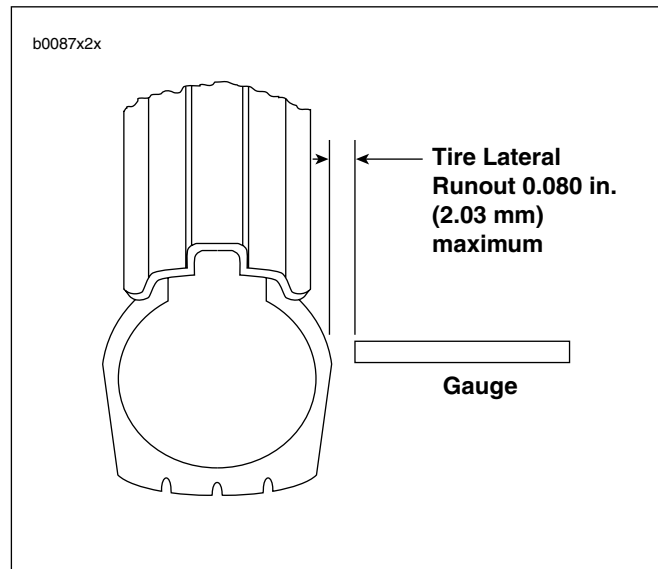

Figure 2-18. Checking Tire Lateral Runout
1. See Figure 2-18. Turn wheel on axle and measure amount of displacement from a fixed point to tire sidewall.